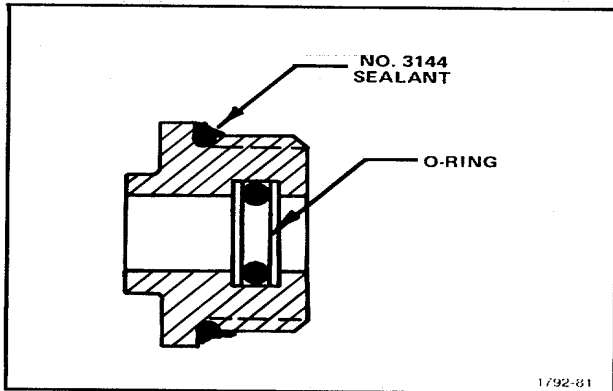

Figure 5-28. Lubrication of the O-rings and sealing for the cam switches
24. Install cam switch Inserts (see Fig. 5-28)
1. Apply G-661 lubricant to o-ring and install as shown in Fig. 5-28.